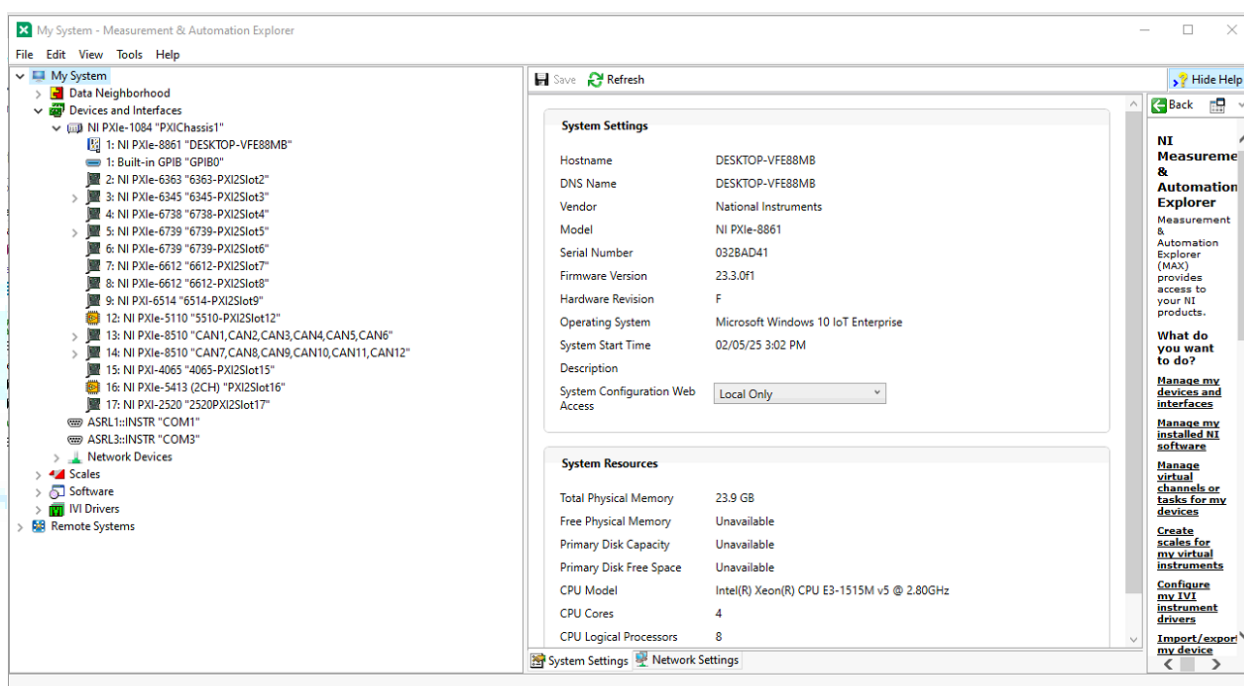

Figure 5: NI MAX Card Information
- Inspect all components and NI modules to ensure that they are installed in the correct slot locations and placed securely in position and Refer the Figure 5.